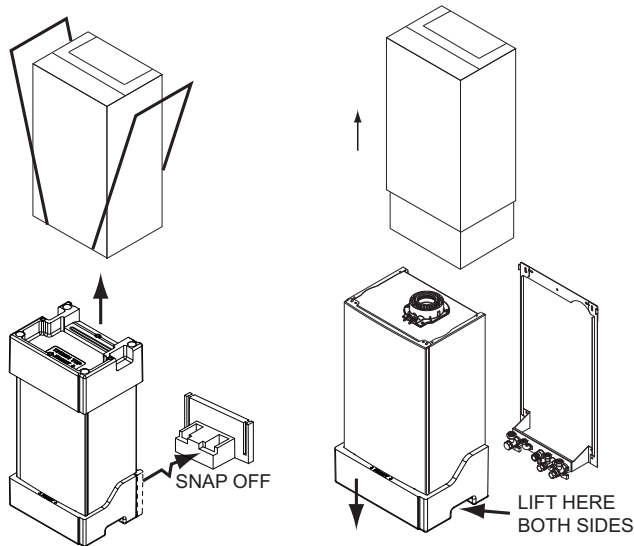

Fig. 14
2. Follow the procedure on the carton to unpack the boiler or see Fig. 14.